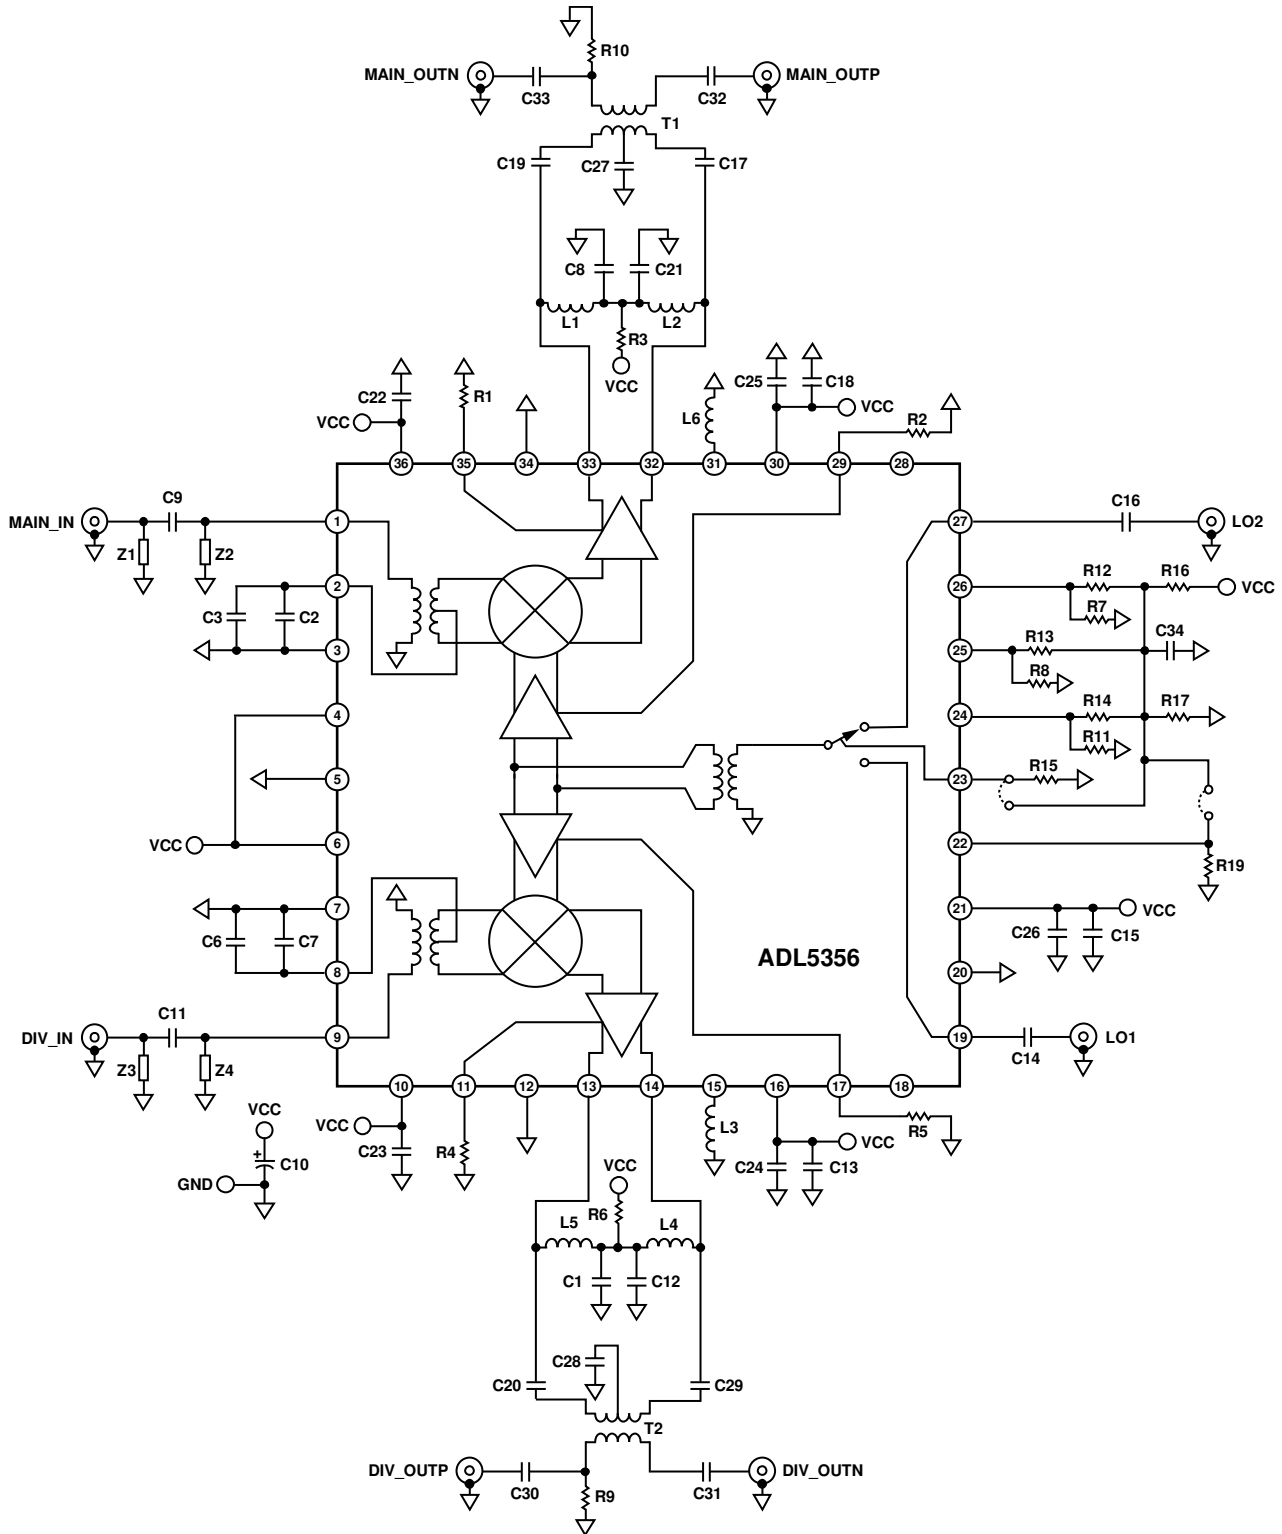

Figure 53. Typical Application Circuit
The ADL5356 mixer is designed to downconvert radio frequencies (RF) primarily between 1200 MHz and 2500 MHz to lower intermediate frequencies (IF) between 30 MHz and 450 MHz. Figure 53 depicts the basic connections of the mixer. It is recommended to ac-couple the RF and LO input ports to prevent non-zero dc voltages from damaging the RF balun or LO input circuit. The RFIN matching network consists of a series 1.8 pF capacitor and a shunt 15 nH inductor to provide the optimized RF input return loss for the desired frequency band.
The real part of the output impedance is approximately 200  $\Omega$ , as seen in Figure 30, which matches many commonly used SAW filters without the need for a transformer. This results in a voltage conversion gain that is approximately 6 dB higher than the power conversion gain, as shown in Table 3. When a 50  $\Omega$  output impedance is needed, use a 4:1 impedance transformer, as shown in Figure 53.